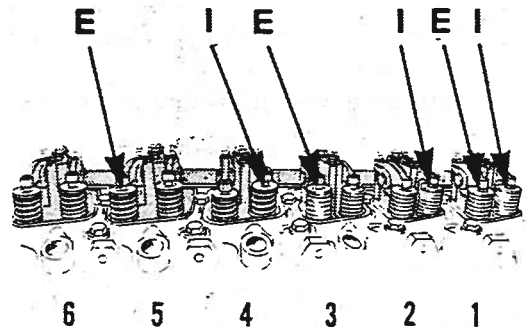

Figure 4-8. Valve Checked at TDC
- e. Check intake and exhaust valve clearance for cylinders indicated in figure 4-8. (I=Intake; E=Exhaust).